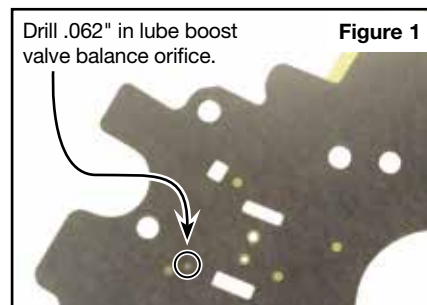

Figure 1
- a. Using Sonnax drill bit, drill lube boost valve balance orifice to .062" (**Figure 1**).